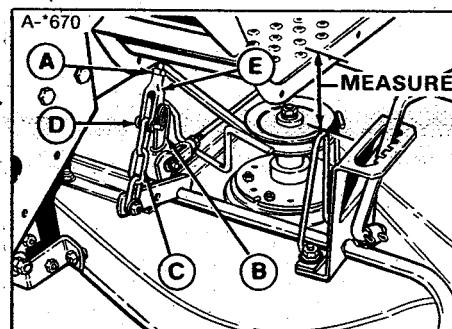
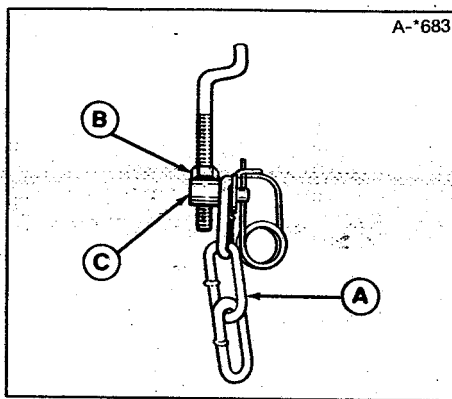

Figure 43. Lift Assembly - Small Lift Lever
Figure 45. Lift Assembly - Large Lift Lever
2. Measure the distance between top of upstop bracket and bottom of footrest (figure 43). The measurement should be 3-1/4".
3. To adjust, disconnect clevis (E, figure 43). Loosen the nut, and turn clevis to raise or lower mower. Tighten nut when measurement is correct.
3. The measurement should be 6". To adjust, disconnect trunnion (figure 45) from chain. Loosen the nut (B) and turn the trunnion to raise or lower mower. Tighten nut when measurement is correct.
In the next step, refer to figure 43 if small lift lever is used or figure 45 if large lift lever is used.
3. To adjust, disconnect clevis (E, figure 43) or trunnion (C, figure 45) from chain. Loosen the nut, and turn clevis or trunnion to raise or lower mower. Tighten nut when measurement is correct.